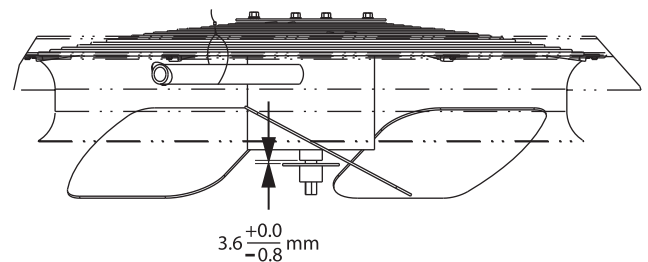

Fig. 15 — Condenser Fan Adjustment
See Fig. 15.
4. Adjust fan height as shown in Fig. 15.